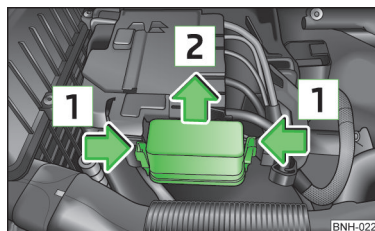

Fig. 104
- › Press together the interlocks of the cover simultaneously» fig. 104 and press the cover upwards in the direction of the arrow .